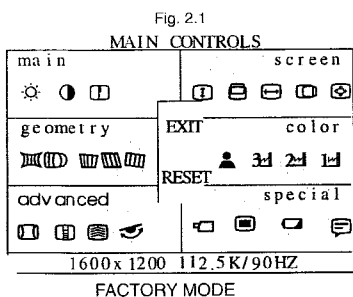

Fig. 2.2
Step 1: To select the character "FACTORY MODE" as shown in Fig. 2.1, press " " to access the OSD menu for R/G/B gain & cutoff as shown in Fig. 2.2.
- : Select the character "FACTORY MODE" to access the R/G/B adjustment as shown in Fig. 2.2 and Fig. 2.3.
- 7.5 : Select the 6500K colour temperature as shown in Fig. 2.2.
- 7.6 : Select the 5500K colour temperature as shown in Fig. 2.2.